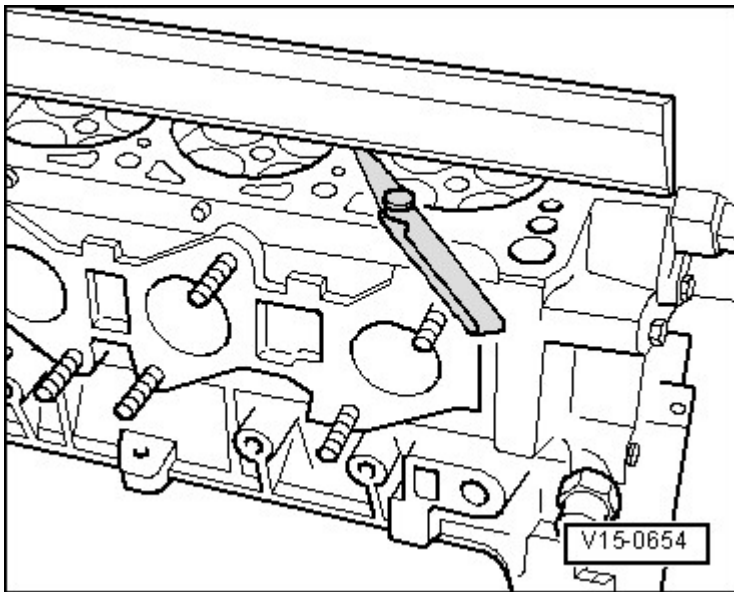

Fig. 4: Checking Cylinder Head For Distortion
- Check for distortion, refer to **Fig. 4**